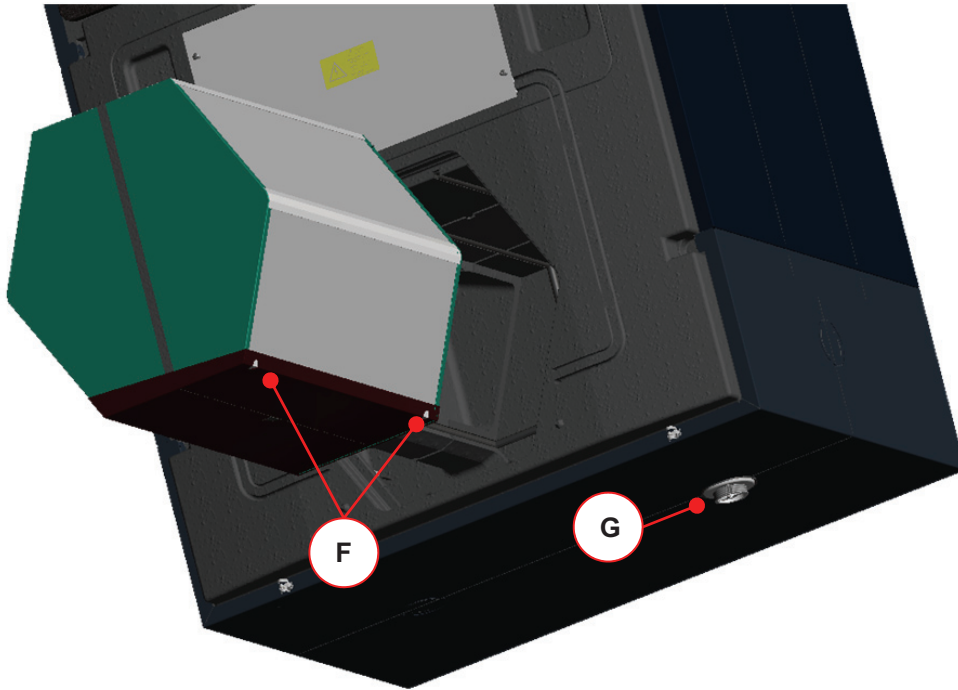

Fig 46: Position of the condensate pan when inserting the heat exchanger into the HRU
2. Insert the respective heat exchanger type considering the notes on Fig 46 and perform the work steps 7. to 9. pursuant to 3.7.1.
3. Insert the heat exchanger considering the notes on Fig 46 and perform the work steps 7. to 9. pursuant to 3.7.1.